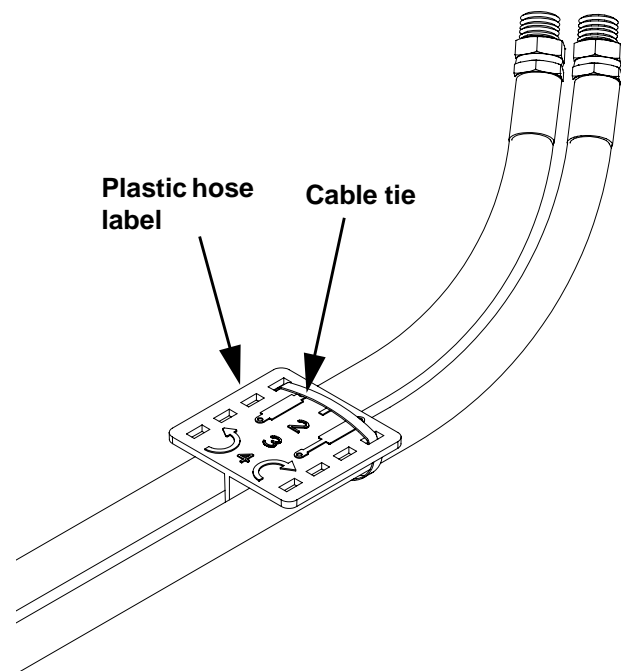

Figure 5
- Using orange cable ties, secure a plastic hose label, see Figure 5, to each pair of hydraulic hoses near tractor outlets.
6. Using orange cable tie, secure plastic hose label, see Figure 5, to hydraulic hoses near tractor outlets.